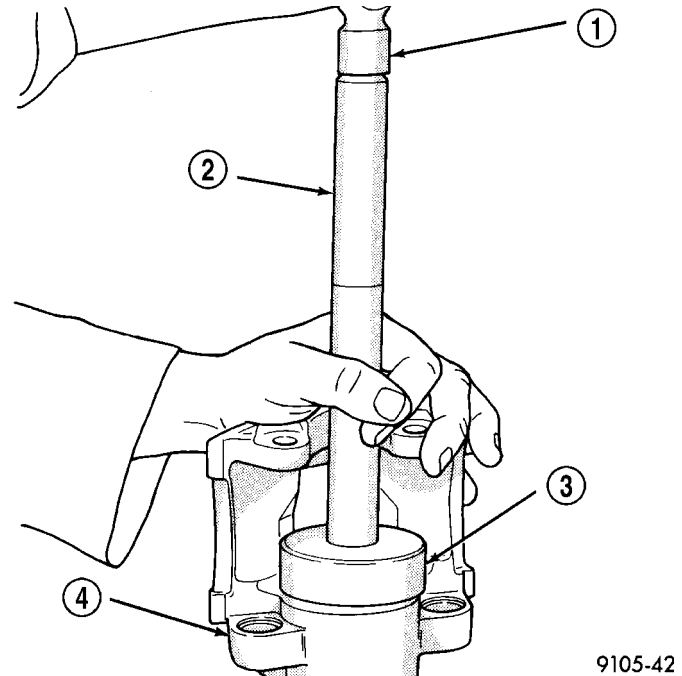

Fig. 56 Installing Dust Boot
(5) Position the dust boot into the counterbore of the caliper assembly piston bore.
(6) Using a hammer and Installer, Special Tool C-4689 or C-4842 (depending on piston size), and Handle, Special Tool C-4171, drive the boot into the counterbore of the caliper as necessary (Fig. 56).
(7) Reinstall the caliper on the vehicle and bleed the brakes as necessary. Refer to Installation in this section.